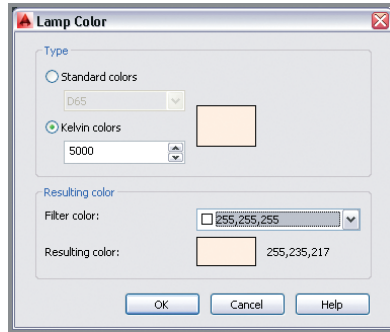

FIGURE 18.12 Specifying lamp color by temperature
15. Right-click the selected lights in the Light Lister and choose Properties. Select the Lamp Color property, and click the icon to the right of the drop-down menu to open the Lamp Color dialog box. Select the Kelvin Colors radio button, type **5000**, and press Tab. The resulting color changes (see Figure 18.12). Click OK.